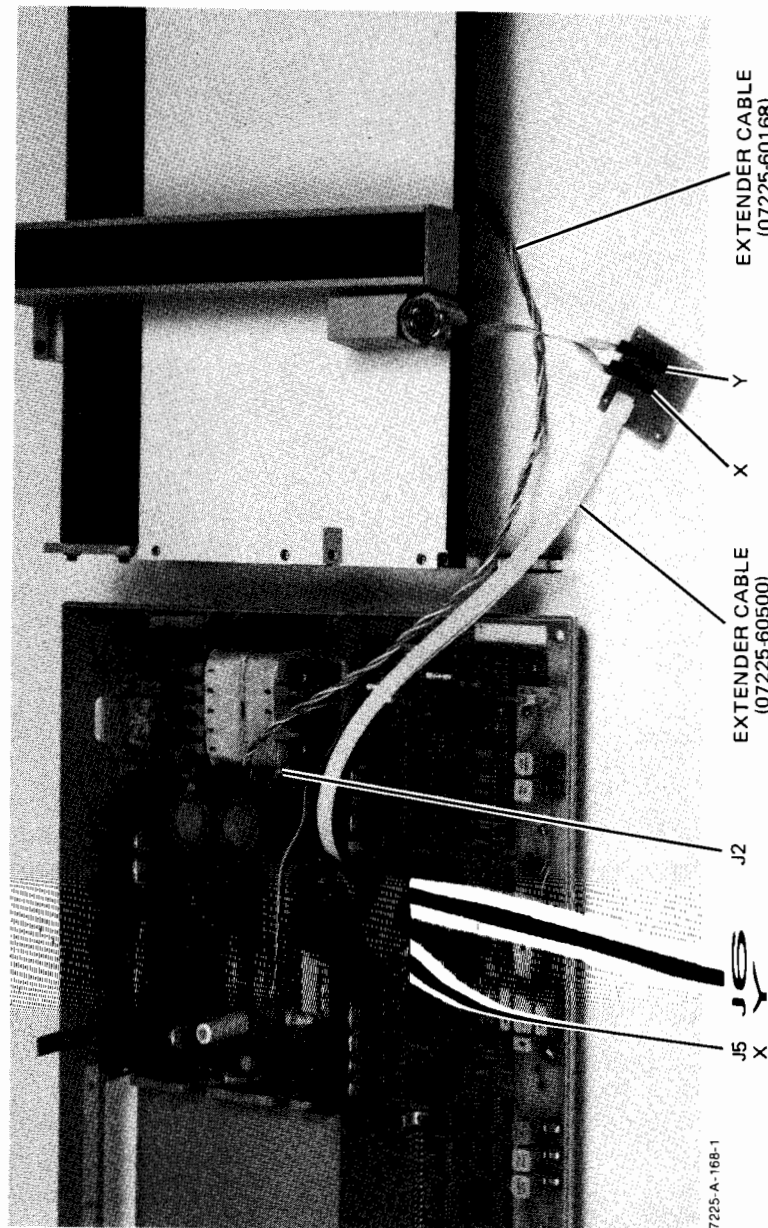

Figure 6-11. Extender Cables, 7225B
- i. Place the upper deck assembly to the right of the lower deck assembly. See Figure 6-11.